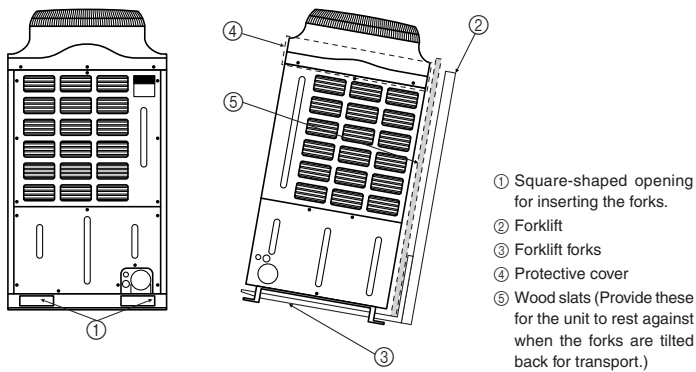

Fig. 3-1
3.1. Transporting by forklift (Fig. 3-1)